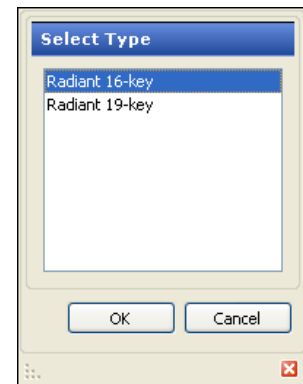

Figure 15 Select Type (Bumpbar Layout)
2. Click the **New drop-down arrow**, select **Radiant 16-Key** from the Select Type dialog box, and click **OK**. (Figure 15).